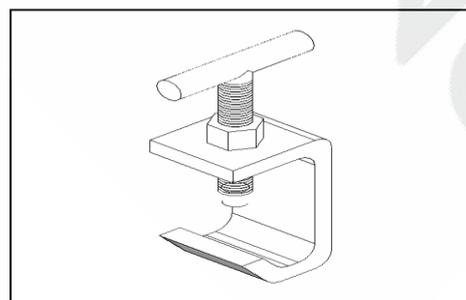

Fig 11 Rim clamp
- 1 Rim clamp 2pcs (seeing Fig11)